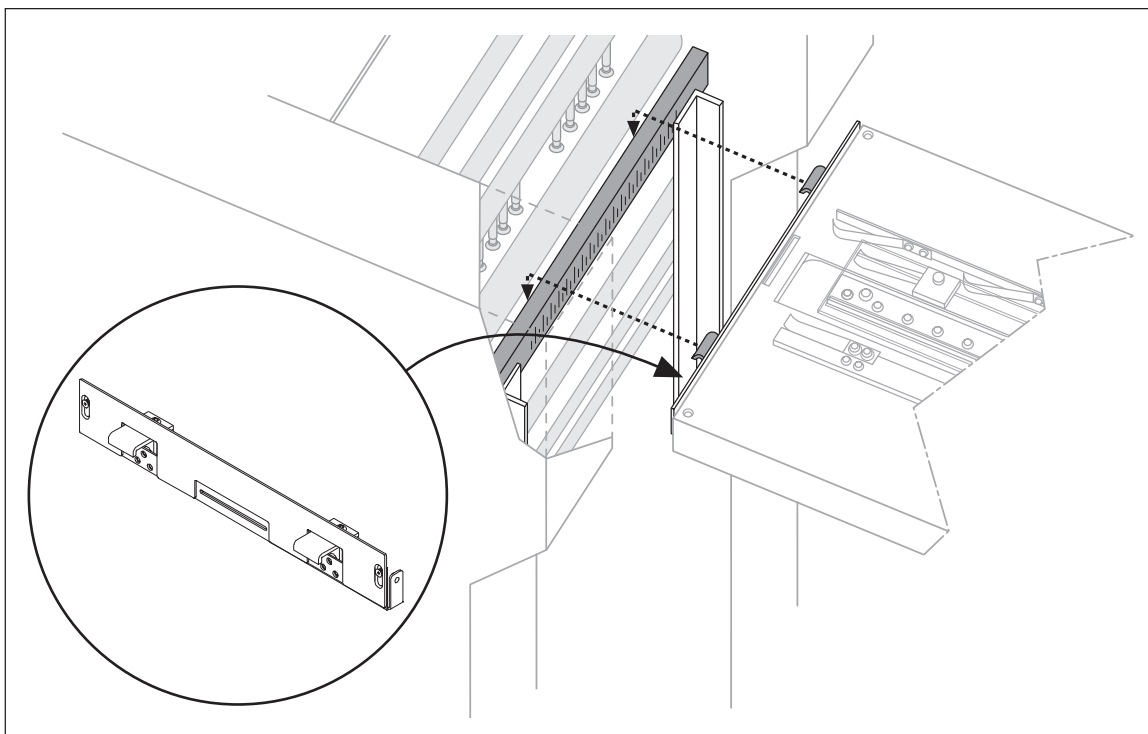

Figure 7. Connect the Hamada Press to the 270RT Feeder
6. Lock the “J” hooks onto the cross bar of the press, making sure the hooks wrap around the bar (Figure 7).